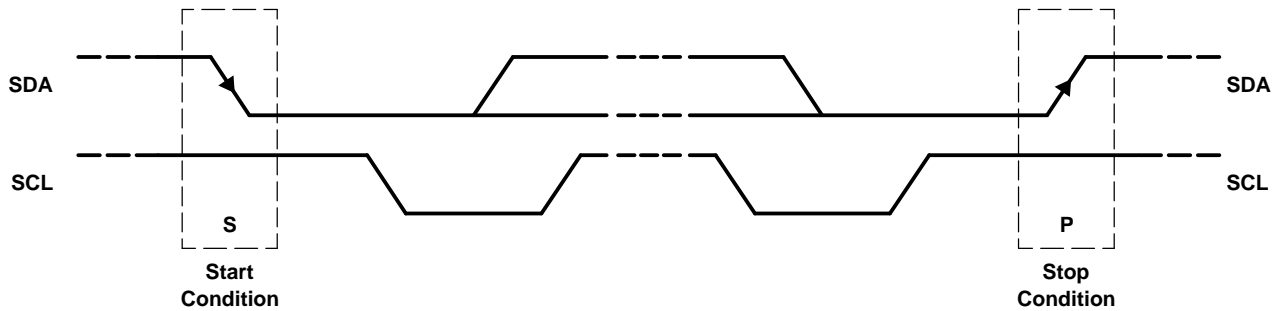

Figure 40. START and STOP Conditions
- The *Master* initiates data transfer by establishing a *Start* condition. The *Start* condition is defined when a high-to-low transition occurs on the SDA line while SCL is high, as shown in Figure 40. The byte following the start condition is the address byte consisting of the 7-bit slave address followed by the  $\overline{W}$  bit.